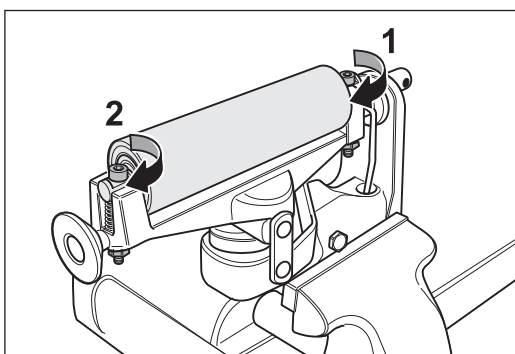
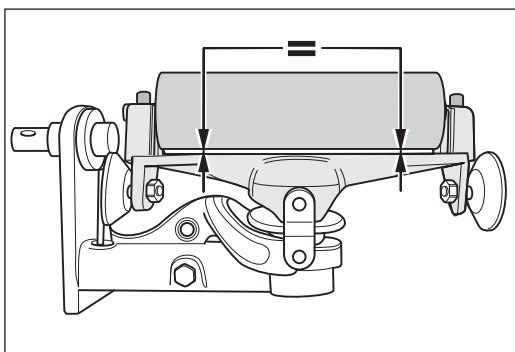

Fig. 92 Tighten the side without spring (1) and then the side with spring (2), so that ...
Fig. 93 ... the tensioning roller is positioned parallel to the top of the drive unit.
- 7 Tighten the screw of the unsprung bearing pedestal side (fig. 92, 1).
- 8 Turn the screw on the sprung side of the tensioning roller (fig. 92, 2) far enough so that the tensioning roller is positioned parallel to the upper part of the drive unit (fig. 93).